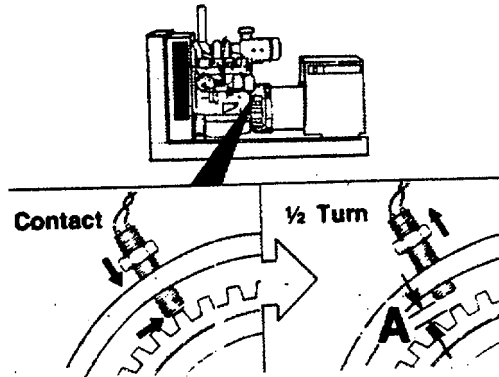

FIGURE 3-7. Magnetic Speed Sensor Adjustment.
- a. Adjust Magnetic Speed Sensor. (FIGURE 3-7)
- (1) Loosen lock nut and screw sensor in until it makes contact with the gear tooth.
- (2) Back off sensor +F turn. Secure lock nut. $A=7.71$ to 1.067mm (0.28 to $.042$ inch).